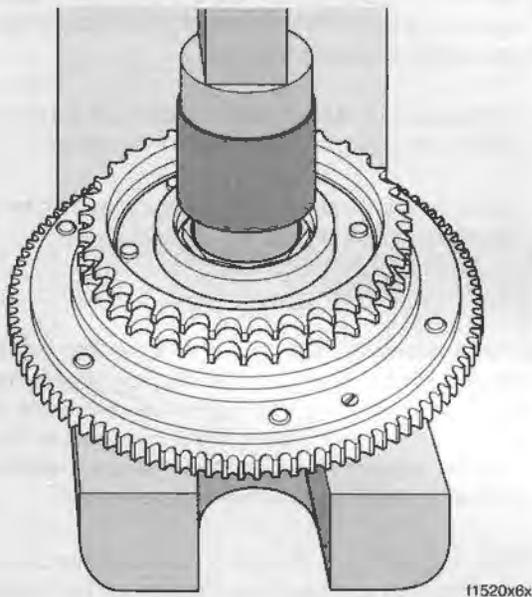

Figure 6-19. Remove Bearing from Clutch Shell
7. See upper frame of Figure 6-19. Turn clutch shell over so that the sprocket side is down. Remove retaining ring from groove in clutch shell bore.
8. See lower frame of Figure 6-19. Turn clutch shell over so that sprocket side is up. Using arbor press and a suitable press plug, press on inner race to remove bearing from clutch shell bore.